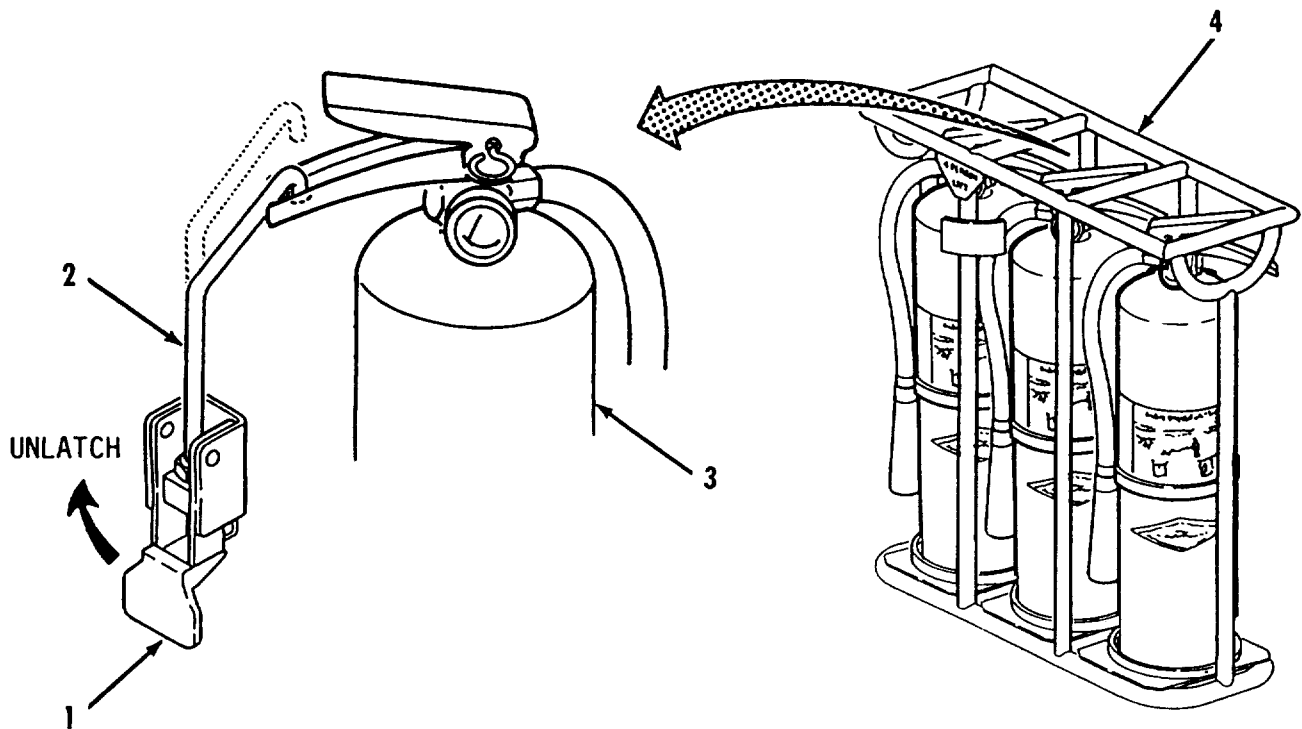

Figure 2-58. Fire Extinguisher Removal.
- q. Fire Extinguisher Removal. Refer to figure 2-58.